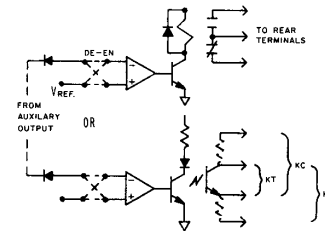

FIG. 7
3.8.3 OPTO-ISOLATED OUTPUT OPTION (KT, KC, KE (KC and KE AVAILABLE ON TWINPOINT CARDS WITH DM INPUT ONLY) (See Figure 7)